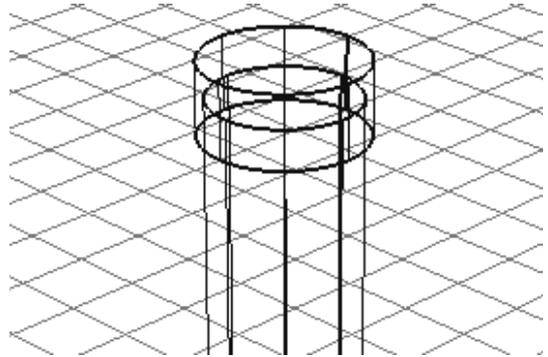

Figure 2-117 Model after scaling the eraser holder
- Enter **110, 110, 50** in the promptline and press ENTER; the eraser holder is scaled, as shown in Figure 2-117.